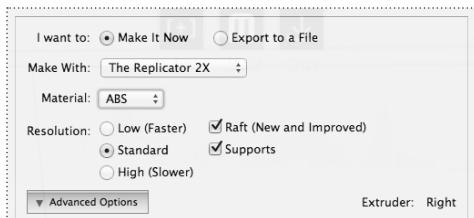

Fig. 10.6
**Supports:** Select this checkbox to print your object with supports. [Fig 10.6]